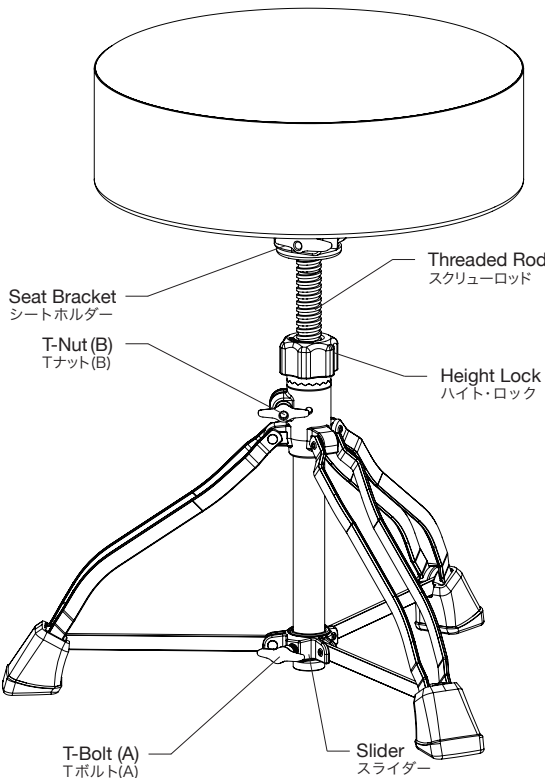

Fig.1 (図1)
Assembly (Fig. 1, 2A, 2B)
組み立て方法 (図1, 2A, 2B)
Before you sit down, make sure the Height Lock is placed on the nylon bushing as shown in fig.1. If you loosen the T-nut (B) or sit on the seat with Height Lock in a floating position, the seat may fall suddenly and cause injury.